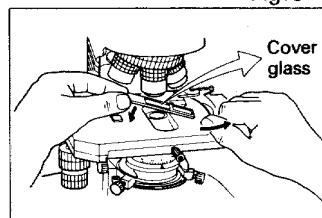

Fig. 3-5
- 5) Place the specimen (glass slide) on the stage with its cover glass facing up and fasten it with the specimen holder (Fig. 3-5).